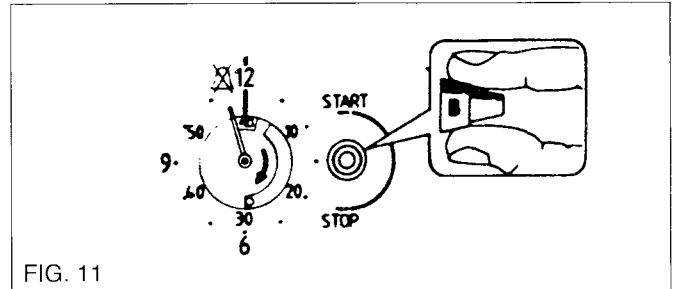

FIG. 11
- vi) To check the stop time during the cooking period, simply press the stop time button (🕒) and the stop time will be displayed. Fig.11.